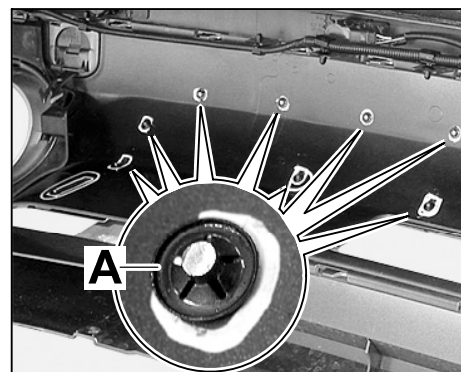

Figure 9
- 2.3 Press the stainless steel rear trim onto the rear apron and fit the small clamping washers \Rightarrow *Figure 9-A*- onto the retaining pivots on the stainless steel rear trim.